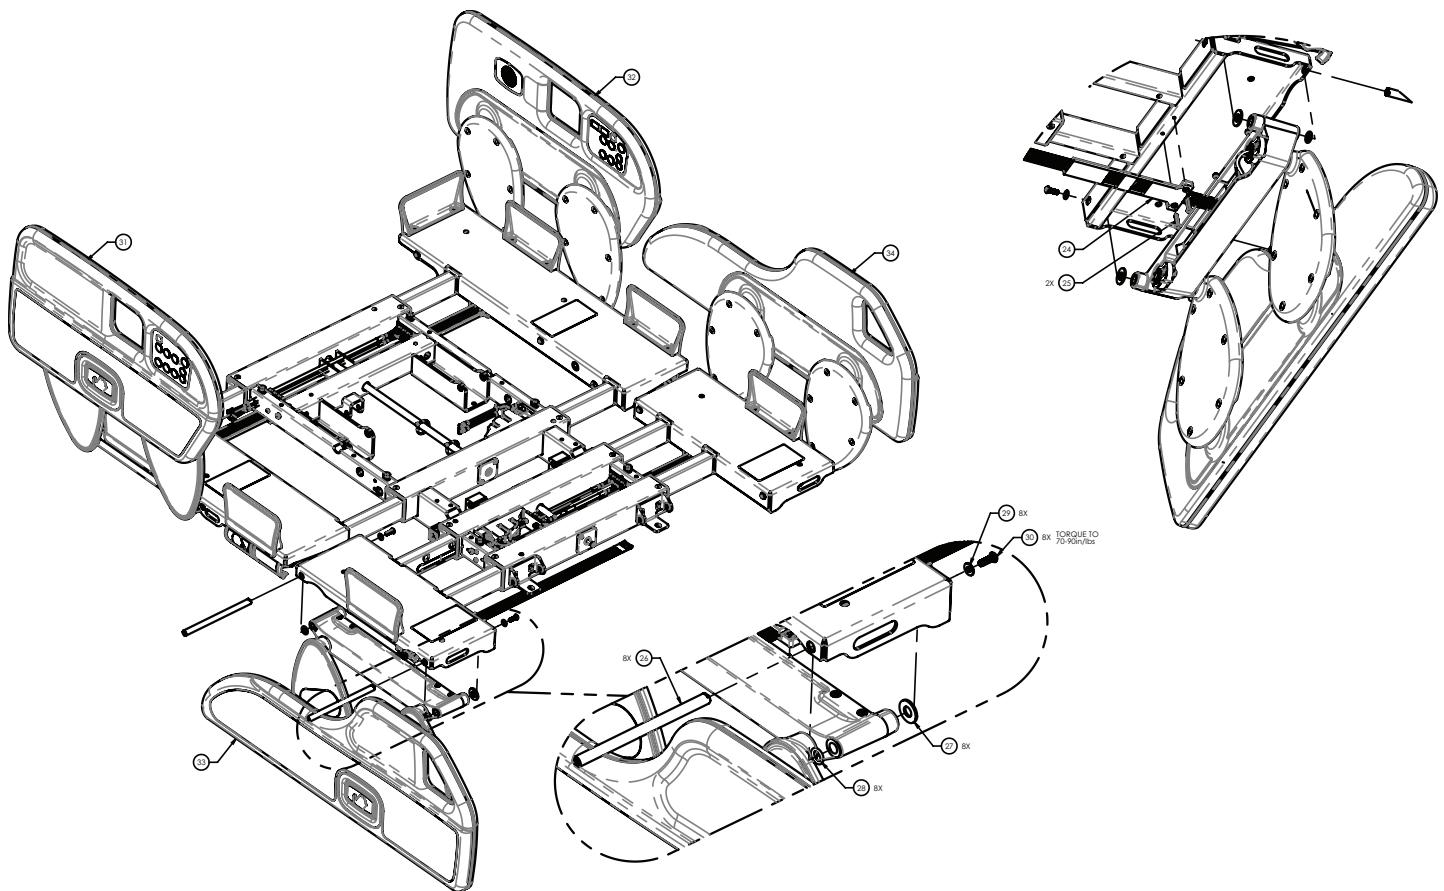

Figure 39 – Siderail replacement, head end
10. Unplug the two siderail cables from the junction board assembly (51).
11. Using a T27 Torx driver, remove the screw (30) and washer (29) that secures the guide rod to the litter (Figure 39).
**Note** - Save the two rubber washers (27) on each glide rod, one on both sides of the siderail carrier, to reinstall. Use Syn-Tech grease to lube the glide rod, if required.